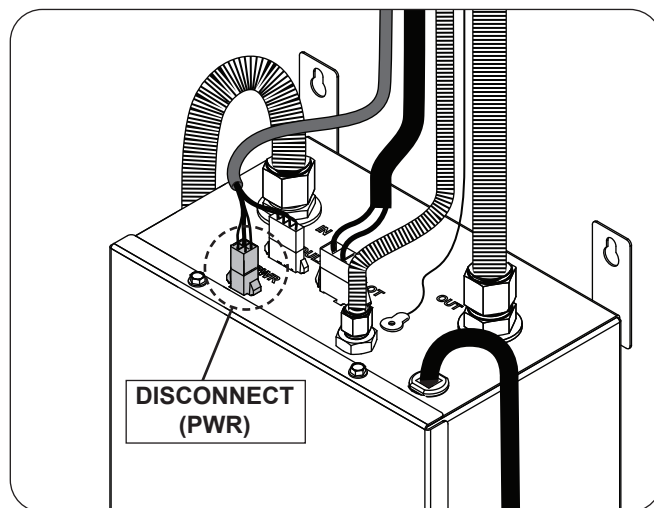

Fig. 31-1 Disconnect power source connector
1. Disconnect the power source connector (PWR) from the control box (see Fig. 31-1).